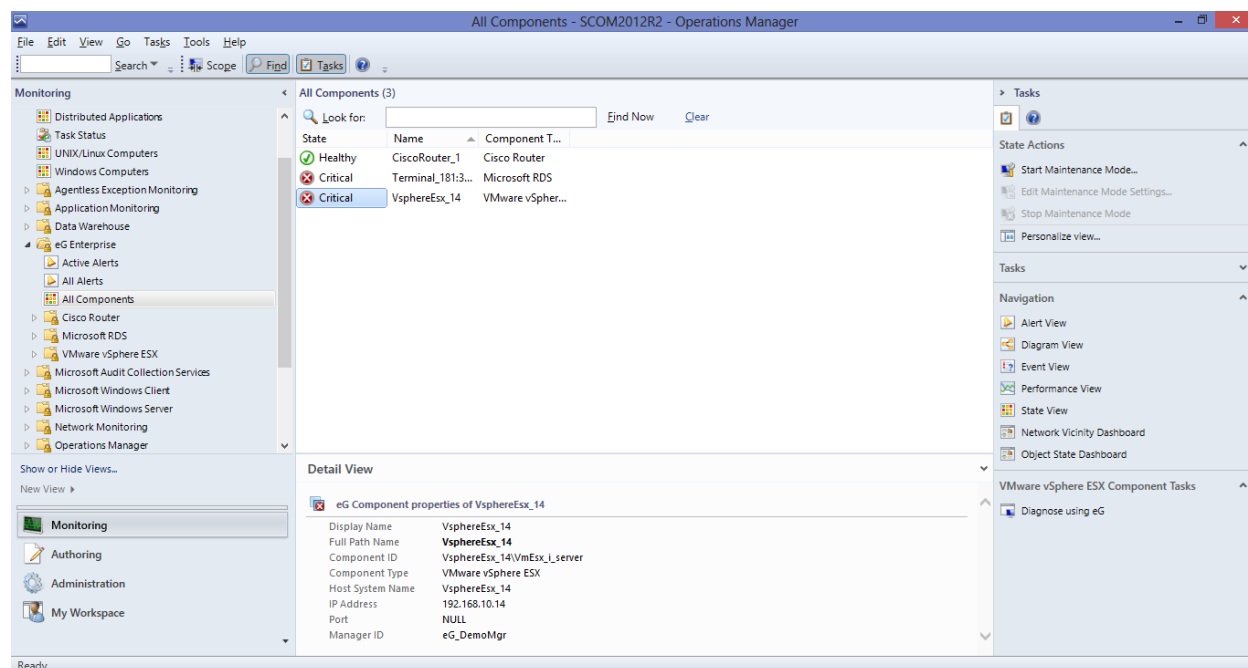

Figure 3.8: The All Components sub-node
1. Click on the **All Components** sub-node under the **eG Enterprise** node in the tree-structure in the left panel of the SCOM console. The right panel will then display all the eG-managed components and their current state (see Figure 3.8).
- From Figure 3.8, it is evident that while the Terminal and vSphere servers in our example are in a **Critical** state currently, the Cisco router is in a healthy state.